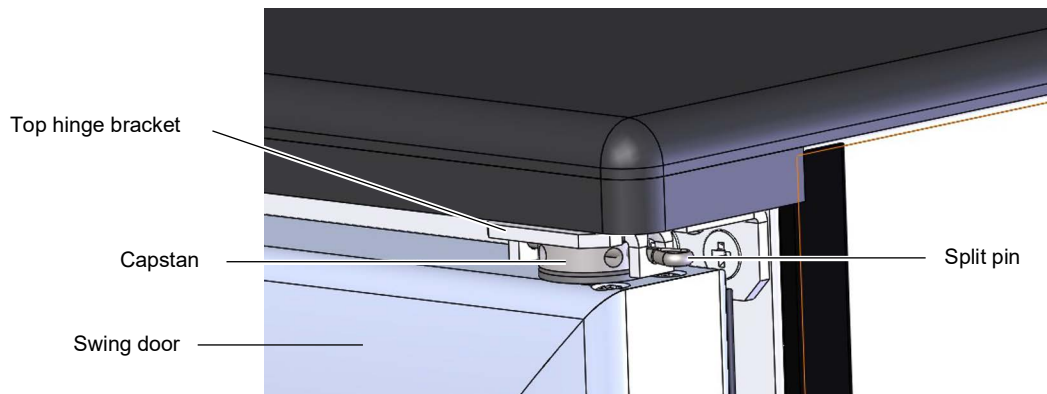

Figure 10: Swing door tension
- Remove the split pin from the top hinge bracket (see Figure 10 on page 30).
Closing Tension The swing doors have internal torsion bars, pre-tensioned at the factory, which enable the doors to self-close. If necessary, the door closing tension can be further adjusted by rotating the capstan mounted in the top hinge bracket (see Figure 10 below).
- Remove the split pin from the top hinge bracket (see Figure 10 above).